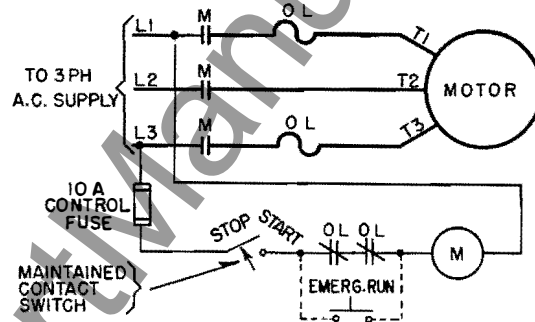

Fig. 5—Typical Low-Voltage-Release Control Circuit for a Non-Reversing Linestarter (Dwg. 13-D-6536)
b. **Low-Voltage-Release Control Circuit**—A typical low-voltage-release control scheme for a Linestarter is shown in Fig. 5.